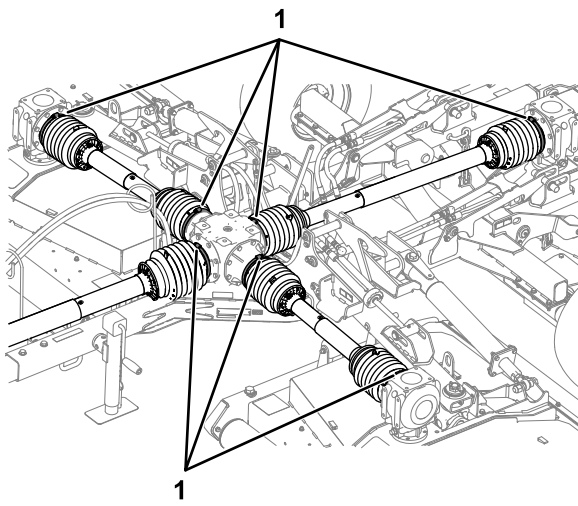

Figure 22
7. Check that the 7 hose clamps firmly secure the drive-shaft guards to the center and deck gear boxes (Figure 22).